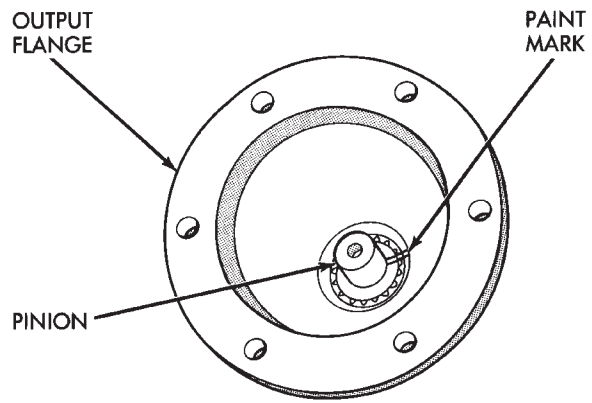

Fig. 9 Mark Flange and shaft
- (7) Index the pinion to the flange (Fig. 9).
- (8) Using a hydraulic press, press off output flange from pinion.